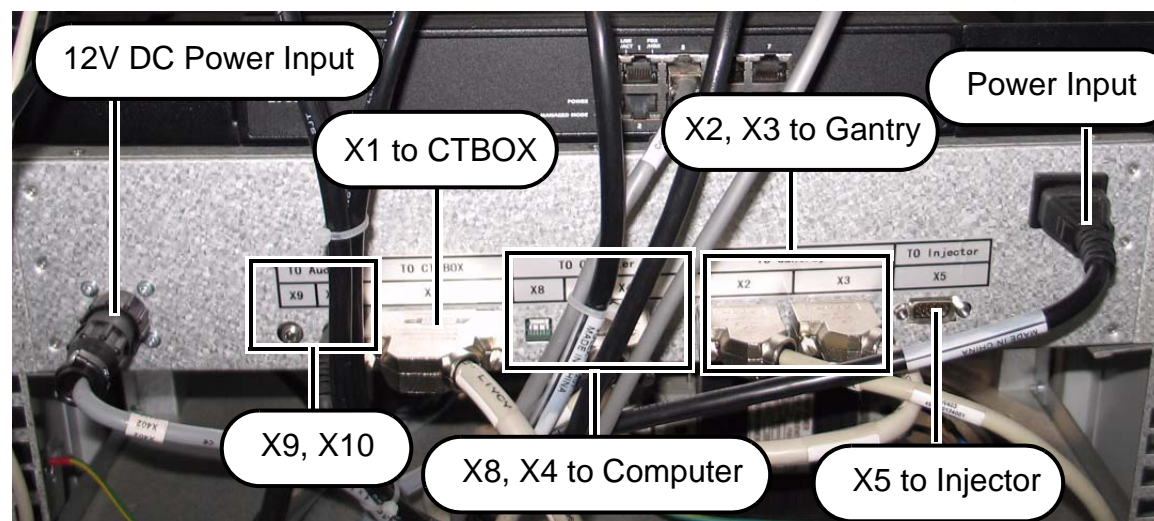

Figure 40: Console Interface Board
5. Connect the cables to the New Console Interface Board as shown in Figure 40 on page 50.